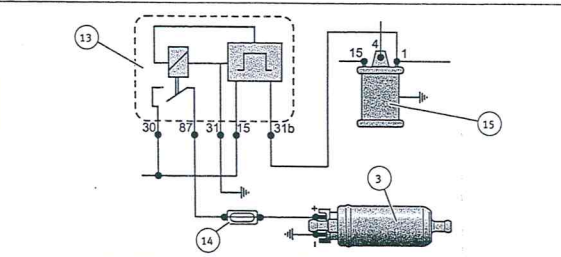

Abb. 5/ Fig. 5/ Puc. 5/图5
- As a second pump that can be activated as required (e.g. in off-road vehicles, in motor racing) (Fig. 5)
- Installation of a safety shut-off (Fig. 5) is mandatory when retrofitting electric fuel pumps.
- The shut-off relay (13) shuts off the fuel pump if the engine comes to a stop but the ignition remains on (e.g. stalled engine, accident).